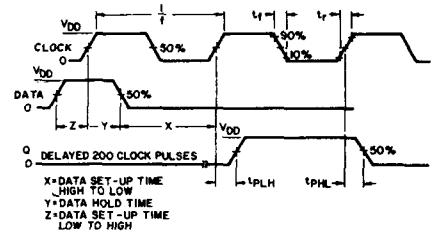

Fig. 3 — Timing diagram—single-phase clock.
Single-Phase-Clock Operation; Clock Mode (CM) = Low; $3\text{V} < V_{DD} \leq 10\text{V}$ (See Figure 3)